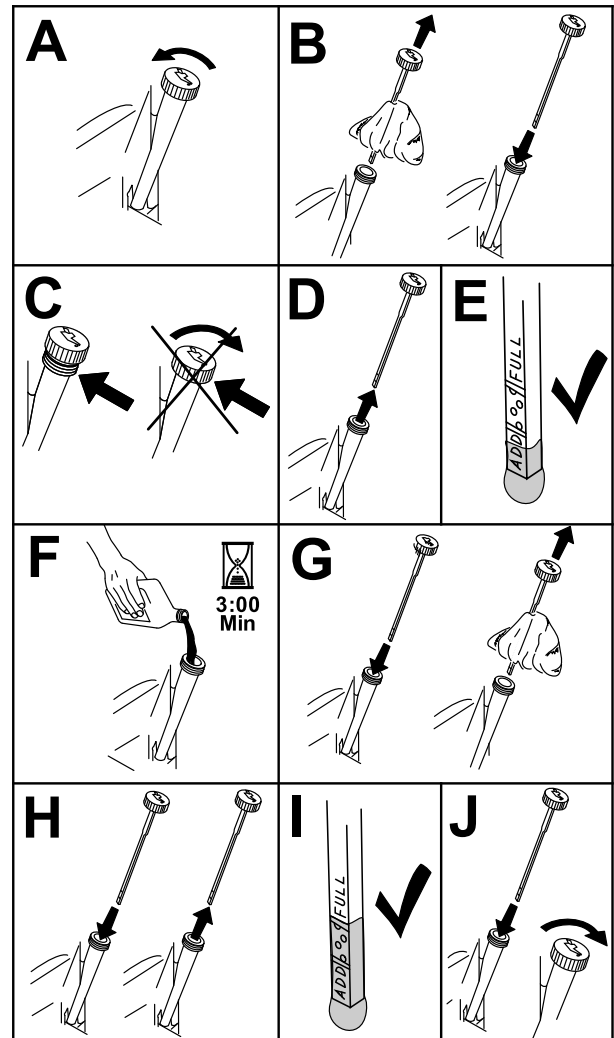

Figure 49
2. Shut off the engine, remove the key, and wait for all moving parts to stop before leaving the operating position (Figure 49).